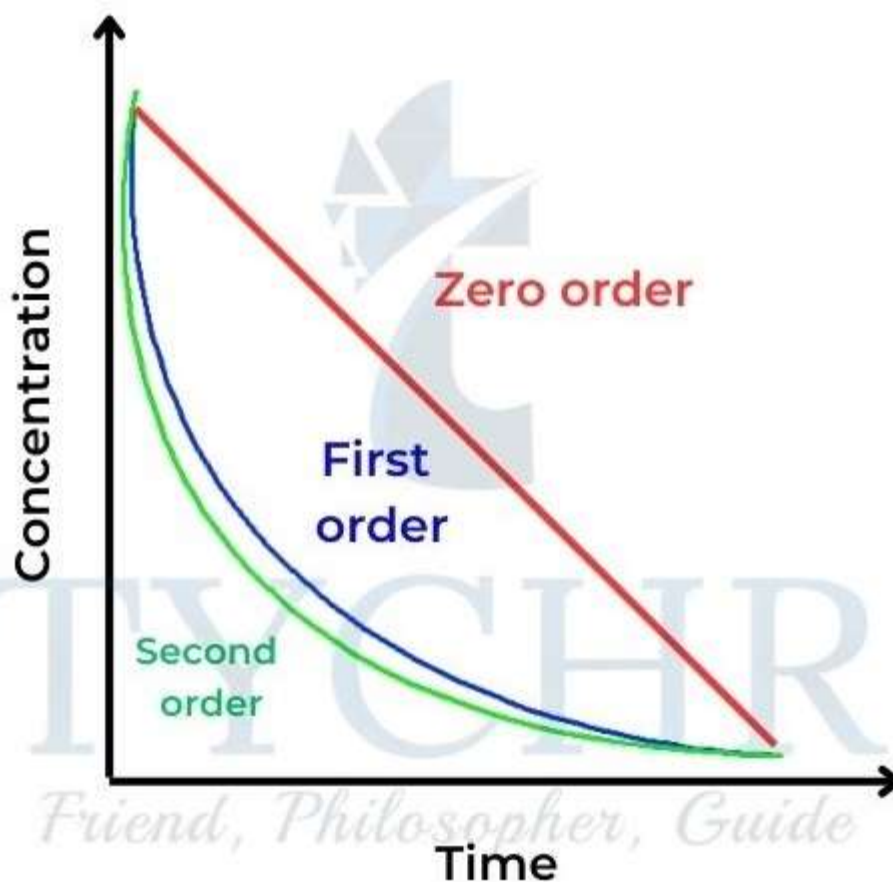

Figure 20: Concentration–time graphs for zero-, first-, and second-order reactions.
- The relationships of concentration–time and rate–concentration graphs for zero-, first-, and second-order reactions are shown in Figures 20 and 21 for comparison.